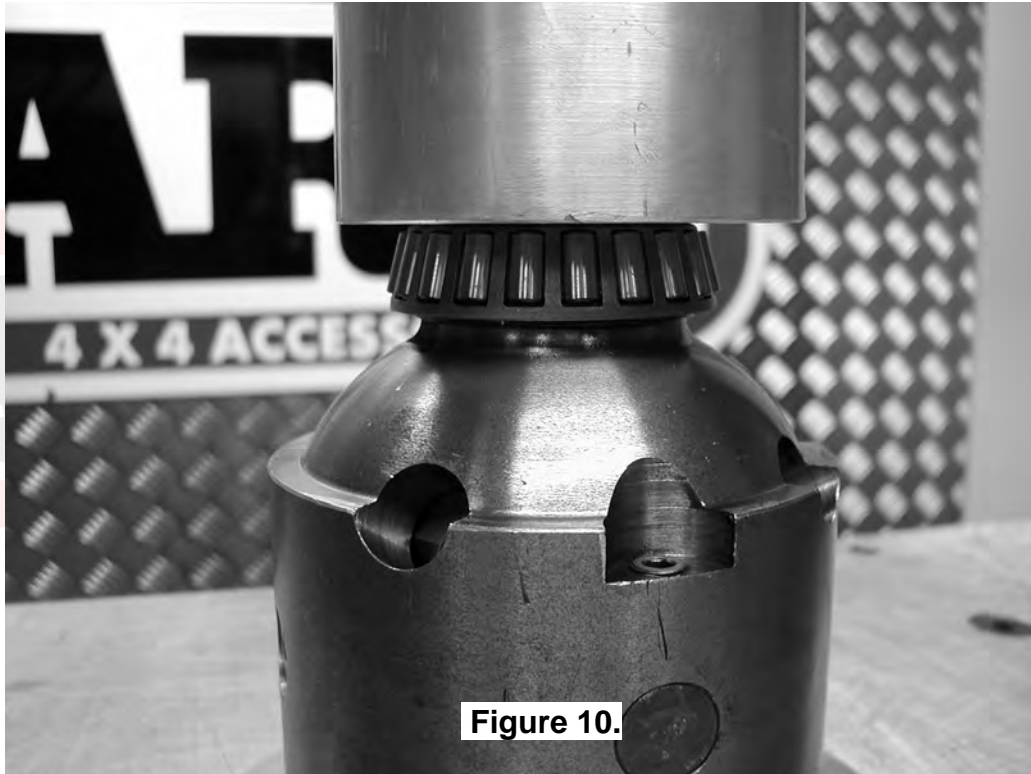

Figure 10.
- Using a bearing press or arbor press, press one of the bearing cones (supplied with the *Air Locker* kit) onto one bearing journal of the *Air Locker* (refer to Figure 10.) until the bearing seats firmly against the bearing journal shoulder.